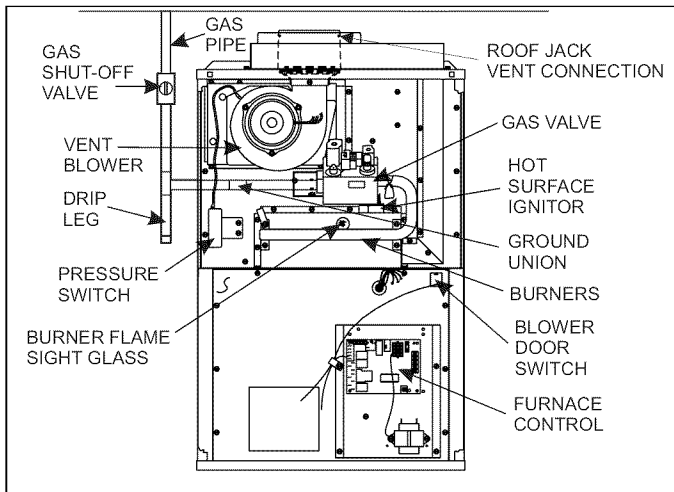

FIGURE 8: Gas Piping Configuration
Some utility companies or local codes require pipe sizes larger than the minimum sizes listed in these instructions and in the codes. The furnace rating plate and the instructions in this section specify the type of gas approved for this furnace - only use those approved gases. The installation of a drip leg and ground union is required. Refer to Figure 8.
Gas piping may be connected from either side of the furnace using any of the gas pipe entry knockouts on both sides of the furnace. Refer to Figure 8 Gas Piping Configuration.
1. Shut off gas supply at valve upstream from furnace or at meter as required. Refer to Figure 8.